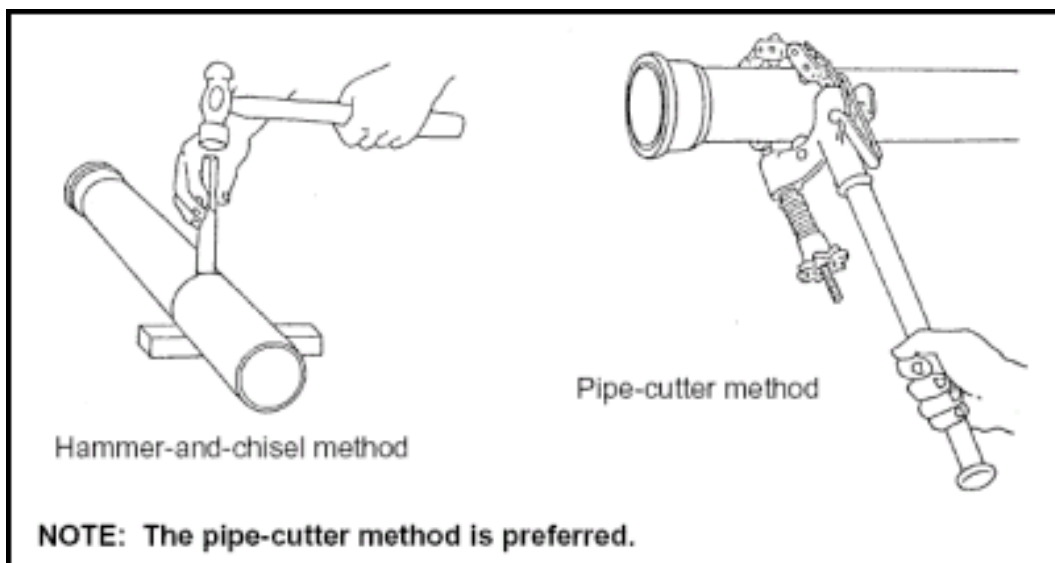

Figure 6-13. Cutting Cast-Iron Soil Pipe
- Soil-pipe cutter. Set the pipe in a vise and position the cutting wheels on the mark by turning the adjusting knob. Apply pressure on the handle until the pipe is cut. Use the adjusting knob to keep a good bite on the pipe (Figure 6-13).
- Hammer and cold chisel. Place the pipe on a board or mound of dirt at the point to be cut. Then place the chisel's cutting edge on the mark and hit it lightly with the hammer while rotating completely around the pipe. Continue scoring around the pipe using harder blows until the pipe is cut (Figure 6-13).